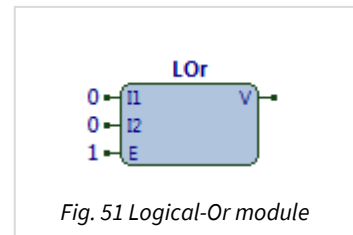

Fig. 51 Logical-Or module
The LOr module (Fig. 51) performs the logic operation to determine whether either of its specified inputs are set non-zero. It performs the logical or operation (OR).